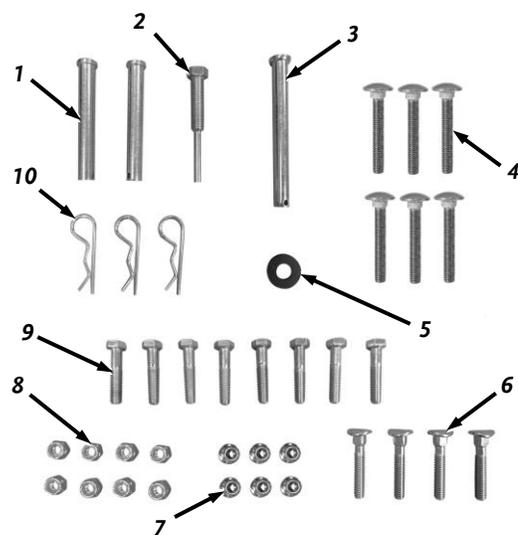

Figure 4
**Hardware in Product Package (Figure 4):**
2. Position the Collector Base onto the Frame and secure with six Carriage Bolts and Locknuts using a 1/2" Wrench from the Product Pack (**Figure 4**).
(Use Product Package Hardware, see Figure 4 and Knob Set, see Figure 5)